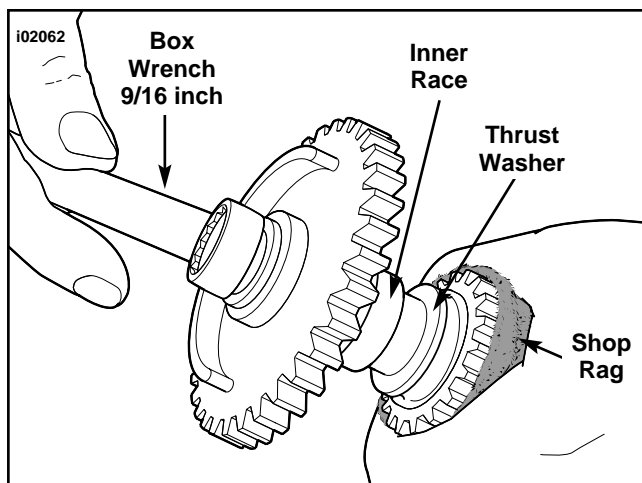

Figure 2. Install Bearing Inner Race (with O-Ring and Washer)
- e. See Figure 2. Wrap a shop rag around camshaft to get a firm grip and also to protect hand from sharp edges of sprocket. Using a 9/16 inch box wrench, turn flange bolt in a clockwise direction. Bearing inner race is fully installed when it makes firm contact with the thrust washer.